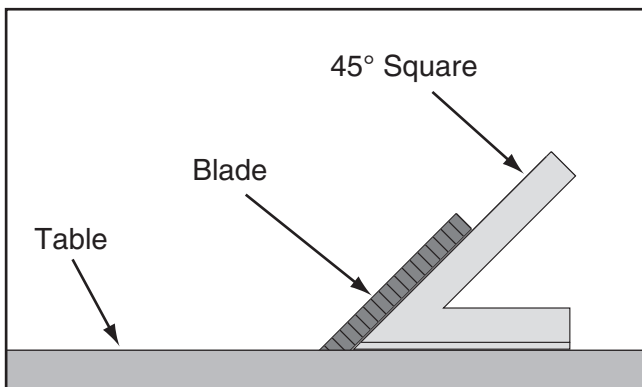

Figure 106. Checking blade at 45°.
3. Place a 45° square against the table and blade so it contacts the blade evenly from bottom to top, as shown in **Figure 106**. Make sure a blade tooth does not obstruct the placement of the square.